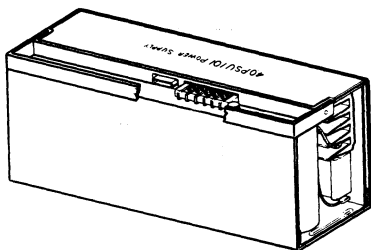

Fig. 1—40PSU101 Power Supply
1.01 This section provides wiring diagrams for the 40PSU101 DATASPEED 40 Power Supply (Fig. 1) and the 40PSU102 DATASPEED 40 Power Supply (Fig. 2).